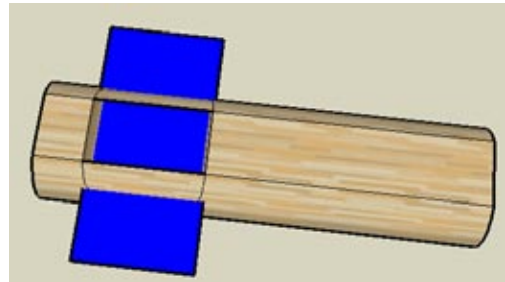

Figure 3-72
12. Move the side edges of this face outward so that the face extends past the sides of the log (Figure 3-72).